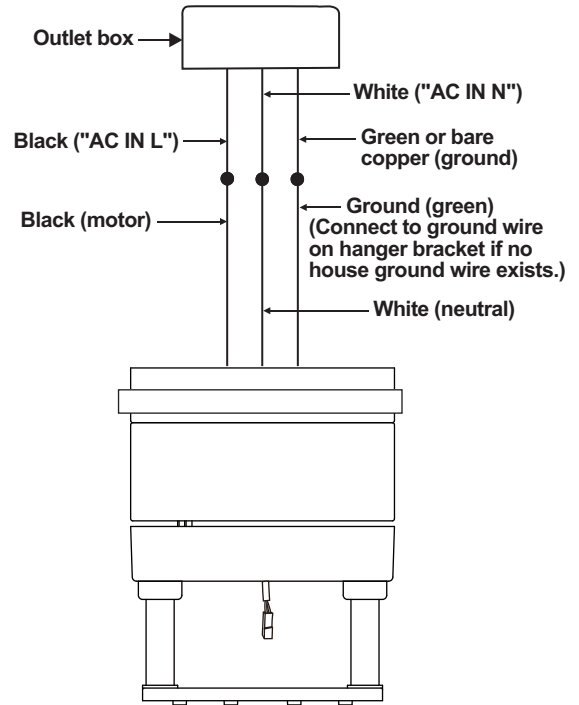

Figure 7
2. Connect the neutral fan (white) wire to the white neutral household wire. (Fig. 7)